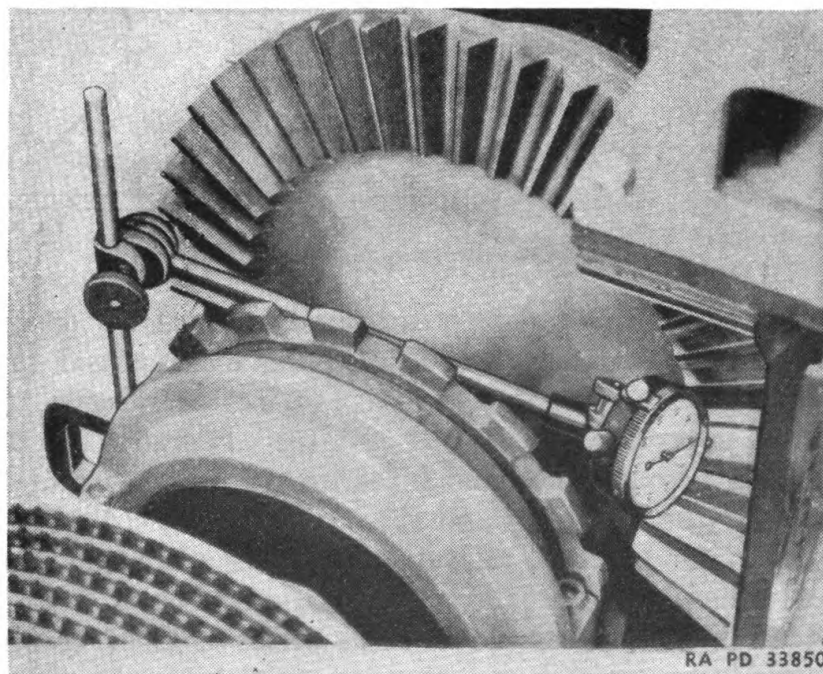

FIGURE 133.—Measuring backlash with dial indicator.
e. Keep pinion pressed forward. Turn pinion by hand in the normal direction of rotation and rotate paper between the gear and pinion. This will insure obtaining an impression from the surfaces of the teeth that will be operating against one another while the tractor is moving. The backlash can be measured best by using a dial indicator (fig. 133). In checking the backlash setting, try the gear and pinion together in numerous places as they are rotated.